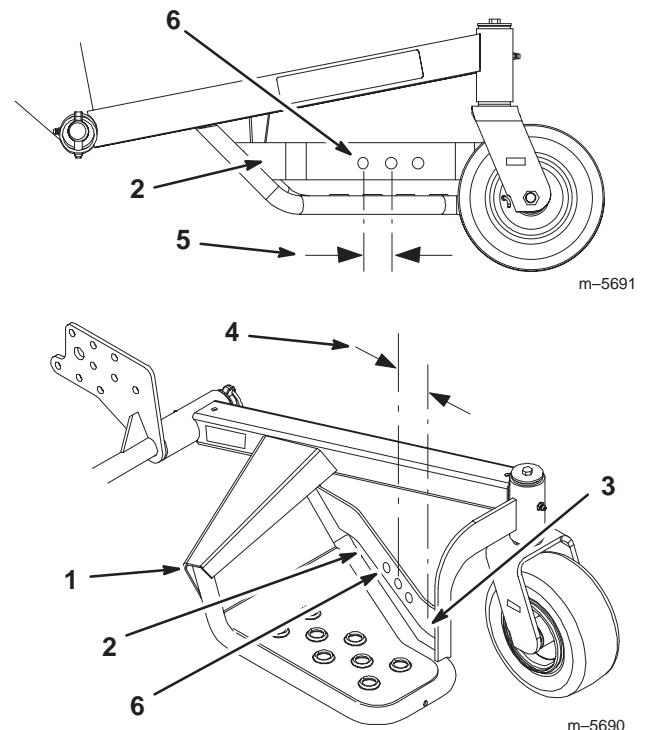

Figure 1
1. From the back bend in the side support, mark the location of the holes (Fig. 1). The center hole must be 4-1/4 in. from the bend and centered vertically. Mark two holes, one inch on each side of the center hole (Fig. 1).
2. Drill 11/32 in. holes at the three marked locations (Fig. 1).
Note: The sulky can be raised or lowered by using the three different holes in the sulky side support (Fig. 1).